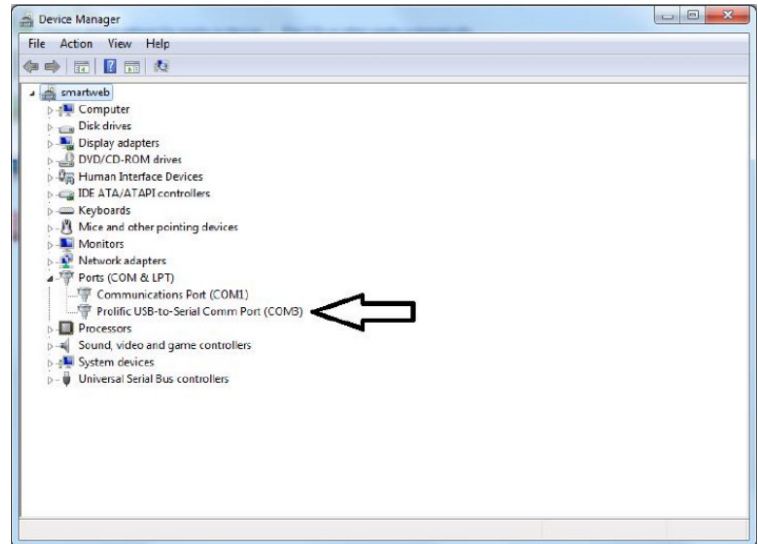

Figure 8-1
3. Use Windows Control Panel / Device Manager to identify the Com port number. See Figure 8-1 below.